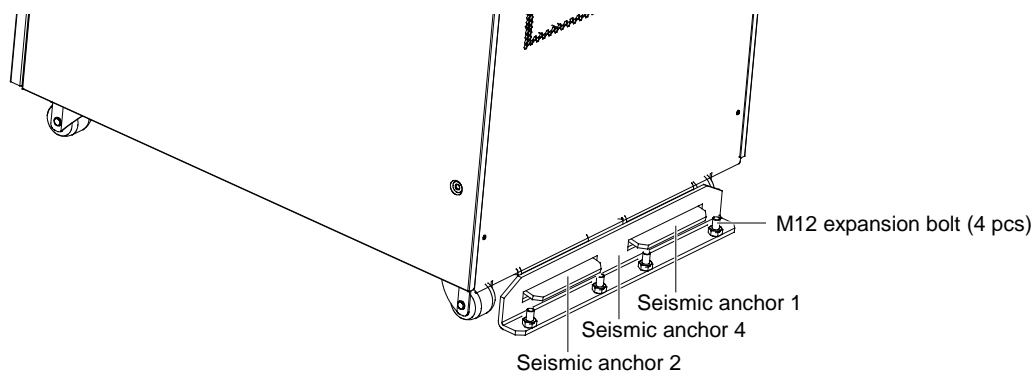

Figure 8-12 Fixing seismic anchor 4 on the ground and fixing the cabinet
4. As shown in Figure 8-12, use four M12 expansion bolts to fix seismic anchor 4 on the ground, then push the UPS backward to insert seismic anchor 1 and seismic anchor 2 into the two holes of seismic anchor 4 respectively.